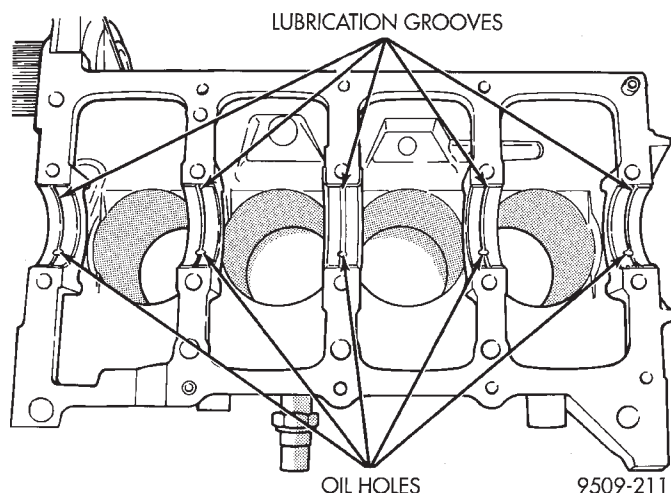

Fig. 12 Installing Main Bearing Upper Shell
- (1) Install the main bearing shells with the lubrication groove in the cylinder block (Fig. 12).
- (2) Make certain oil holes in block line up with oil holes in bearings. Bearing tabs must seat in the block tab slots.